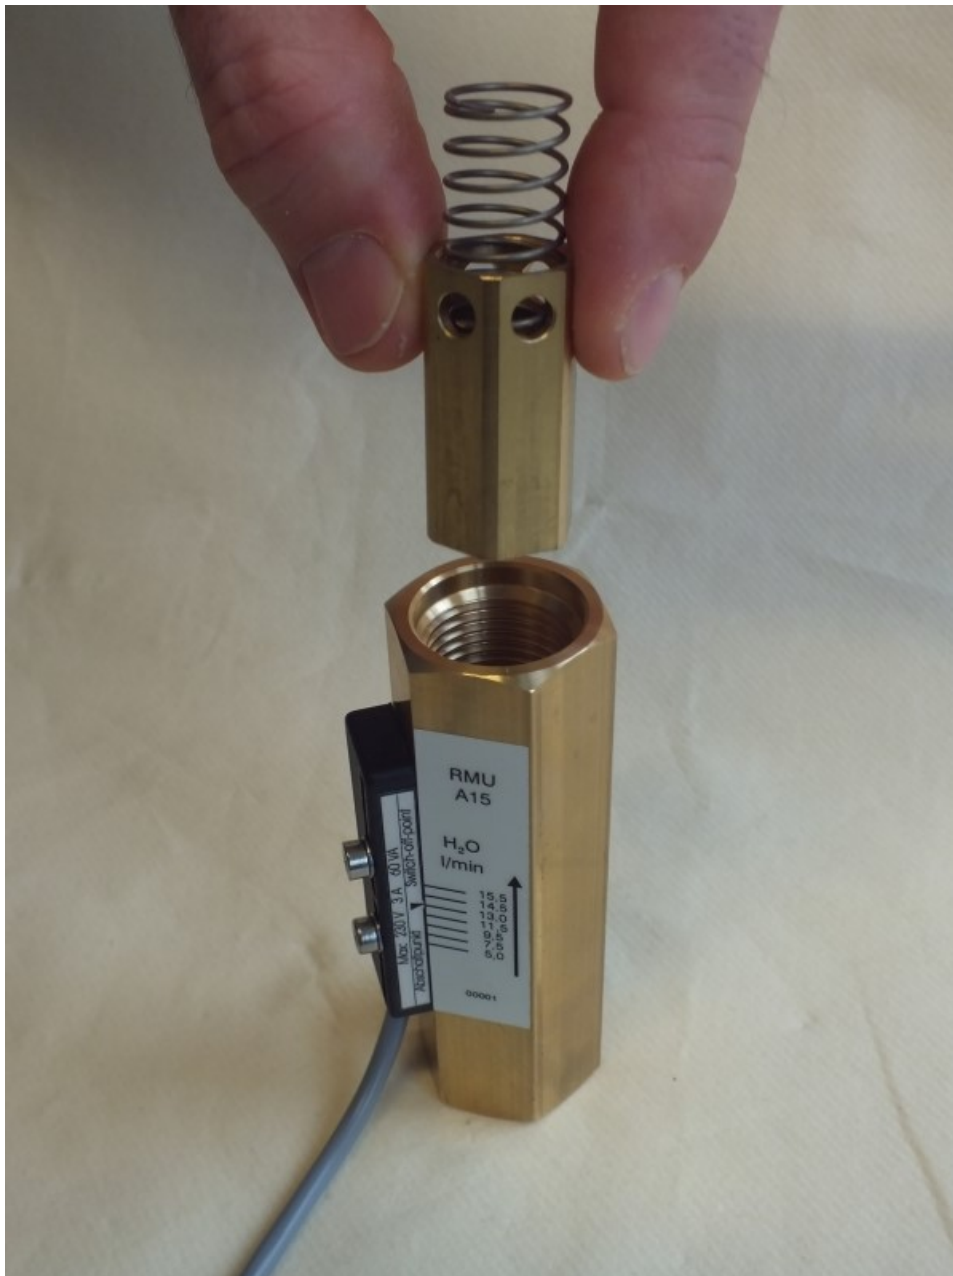

Fig. 28: Insert inner parts
2. ➤ Insert float with magnets and spring into the device body (*Fig. 28*)